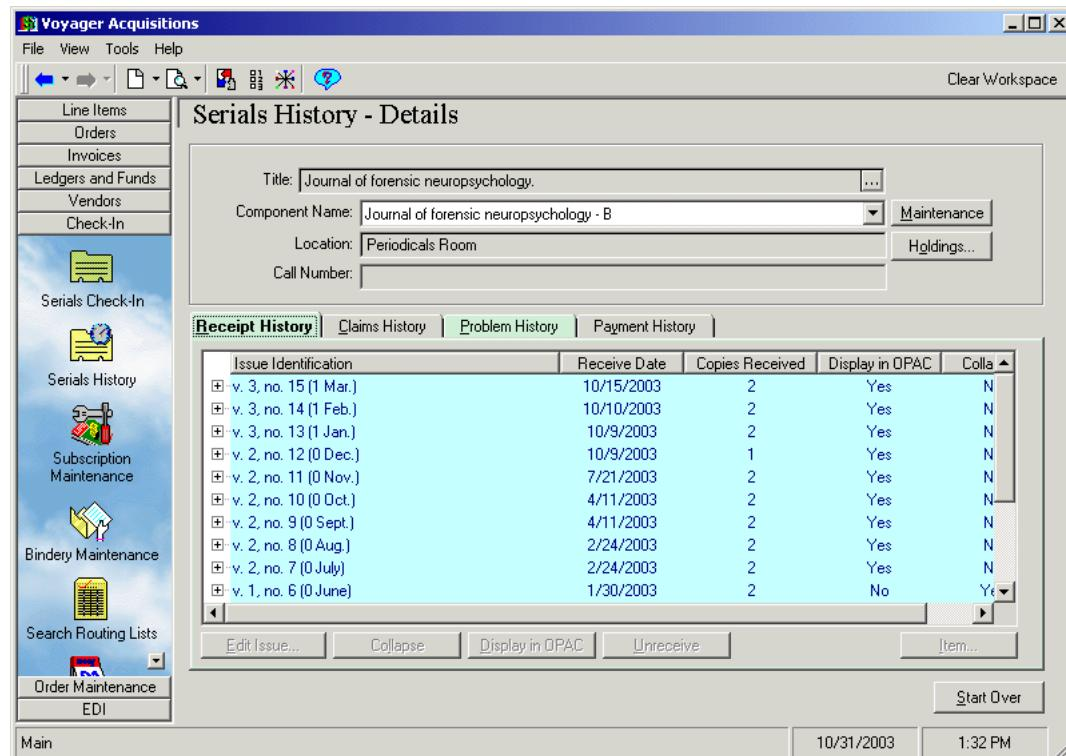

Figure 13-9. Serials History workspace - ellipsis displayed beside the Title field
- The **ellipsis** button beside the **Title** field at the top of the **Serials History** workspace (see Figure 13-9). There are numerous ways to display the **Serials History** workspace. See Serials History Information on page 9-28 for more information.